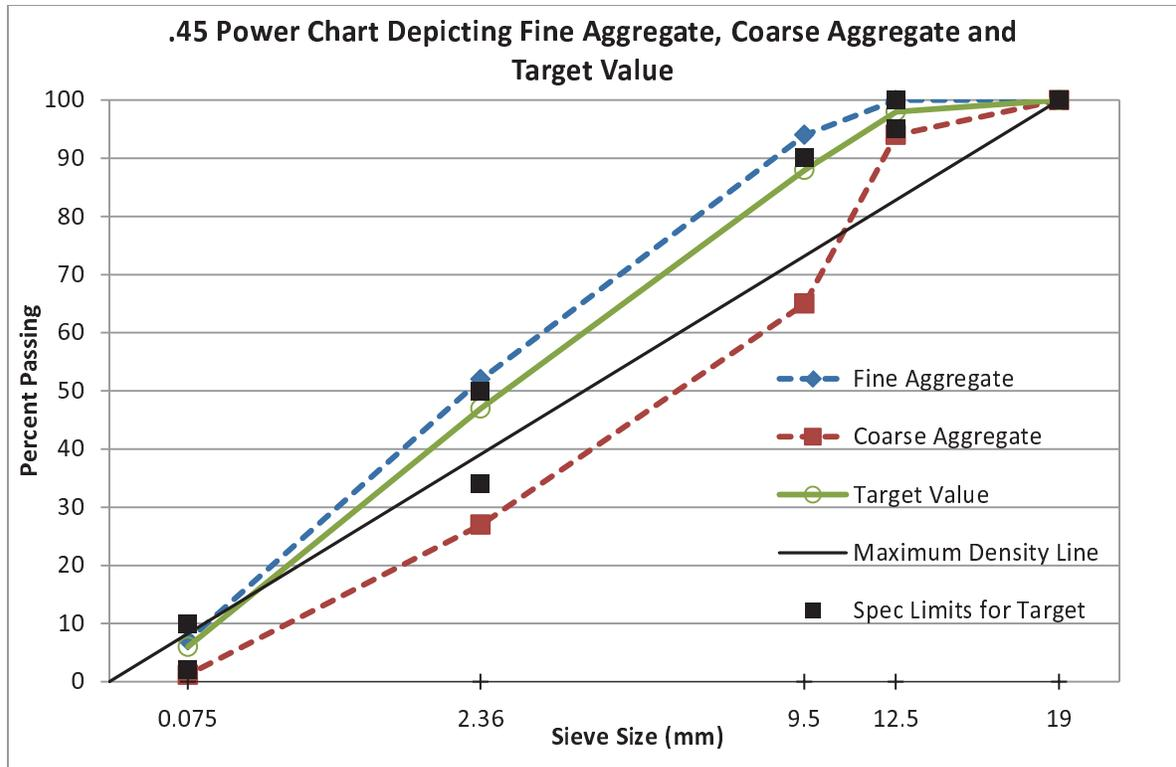

Figure 7-4: A .45 Power Chart
STEP 5. Compare the result with the target value, using the decision table below and the .45 Power Chart (shown as Figure 7-4 on the next page) to determine success and make adjustments.